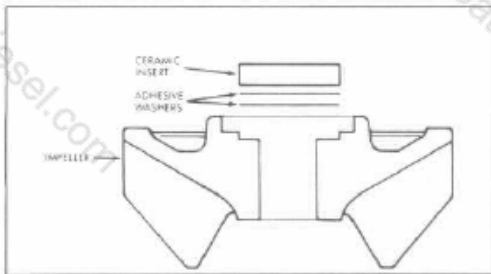

Fig. 8 - Insert, Adhesive Washer, Impeller Stackup
- c. Place Two (2) adhesive washers in the impeller bond area with the ceramic insert on top. The polished face of the ceramic insert should be visible to the assembler (Fig. 8).